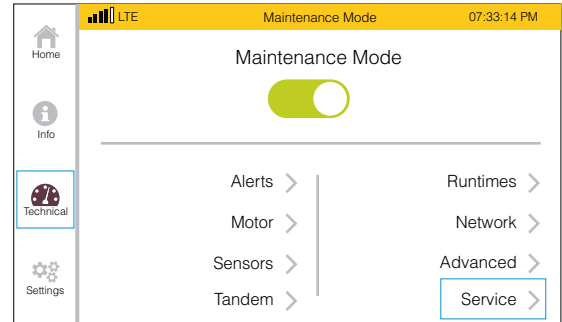

FIGURE 71. PRESS SERVICE
9. On the Technical screen, press **SERVICE >** (FIGURE 71).